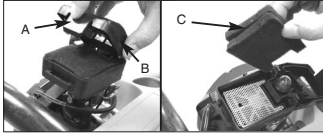

Fig. 6
1. Press down on tab (A) holding air filter cover in place, remove cover (B) and lift filter (C) from air box (Fig. 6).